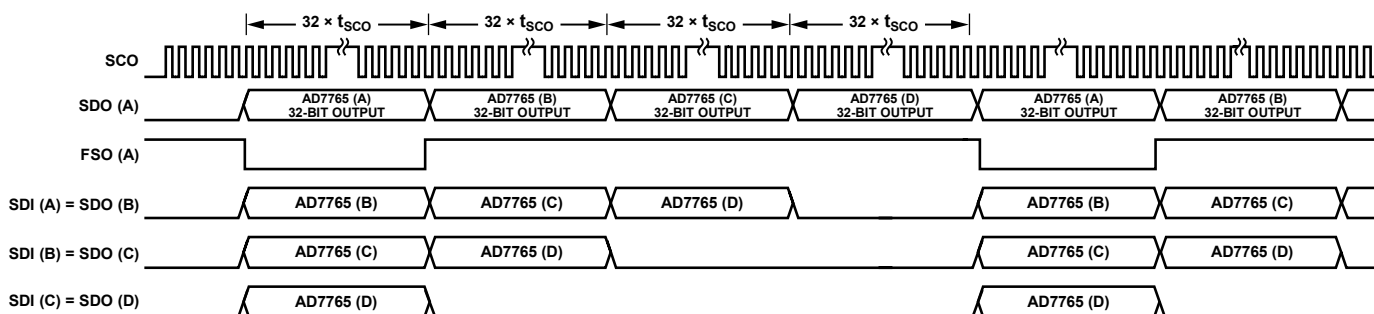

Figure 35. Daisy-Chain Mode, Data Read Timing Diagram
After applying a SYNC pulse to all devices, the filter settling time must pass before the FILTER-SETTLE bit is asserted indicating valid conversion data at the output of the chain of devices. As shown in Figure 35, the first conversion result is output from the device labeled AD7765 (A). This 32-bit conversion result is then followed by the conversion results